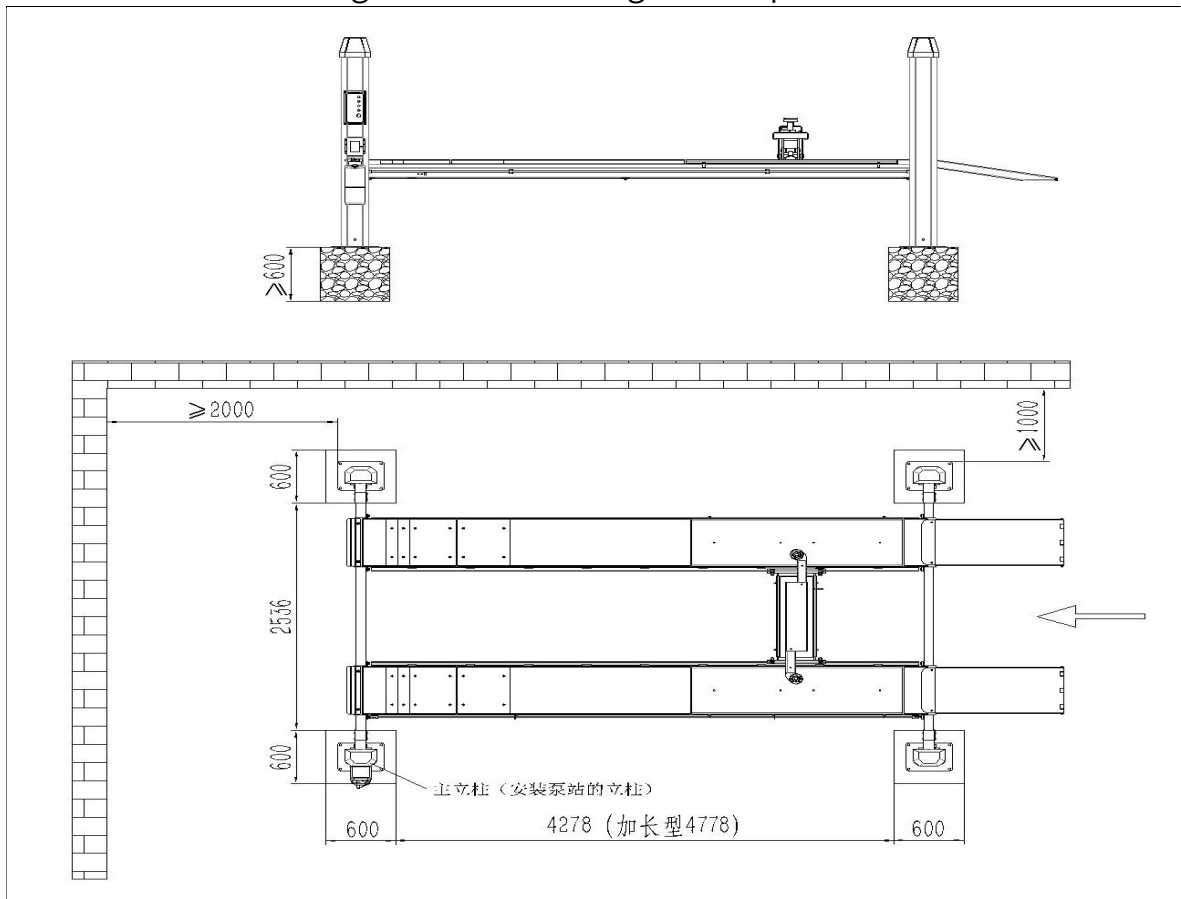

Figure 13 – Concrete Specification
- Lift can only be installed on concrete pads (see Figure 13), which must have a minimum thickness of 24” (600mm) with a 3000 PSI rating or more and should be aged at least 7 days.